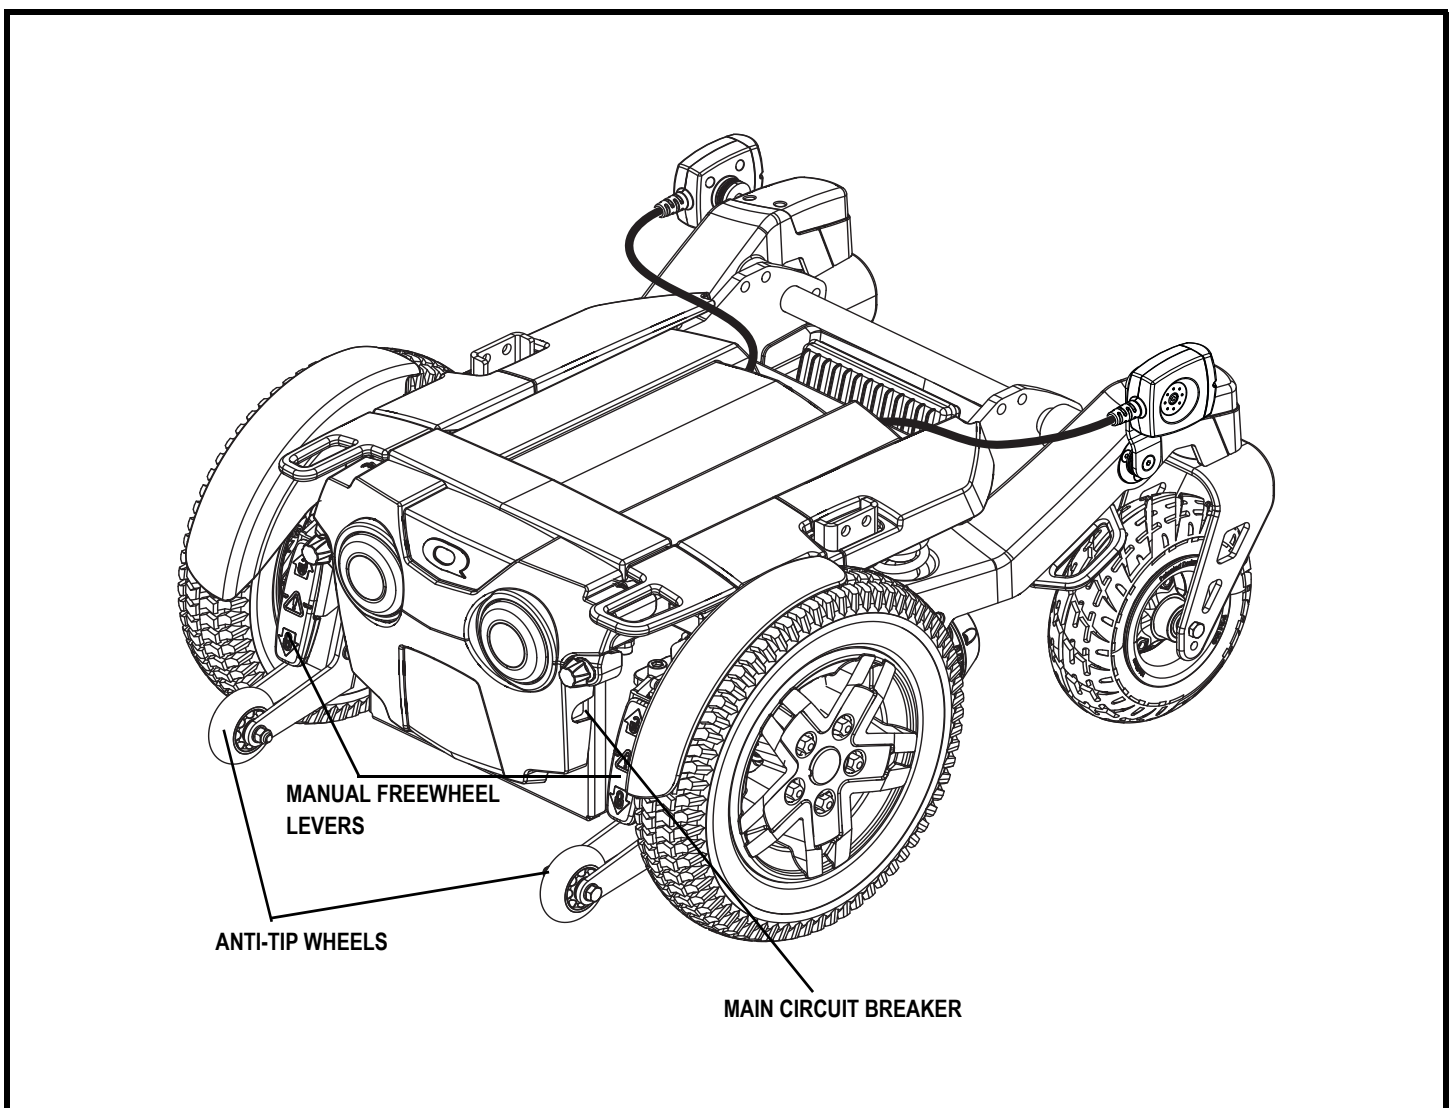

Figure 6. The Rival Power Base
The electrical components are located on the front of the power base. See figure 6.
Main Circuit Breaker: The main circuit breaker is a safety feature built into your power chair. When the batteries and the motors are heavily strained (e.g., from excessive loads), the main circuit breaker trips to prevent damage to the motors and the electronics. If the circuit trips, allow your power chair to “rest” for approximately one minute. Next, push in the circuit breaker button, turn on the controller and continue normal operation. If the main circuit breaker continues to trip repeatedly, contact your Quantum Rehab Provider. The main circuit breaker may be located on either the left or right side of your power chair. See figure 6.
3. Unplug the controller connector(s) from the power base. See figure 6.